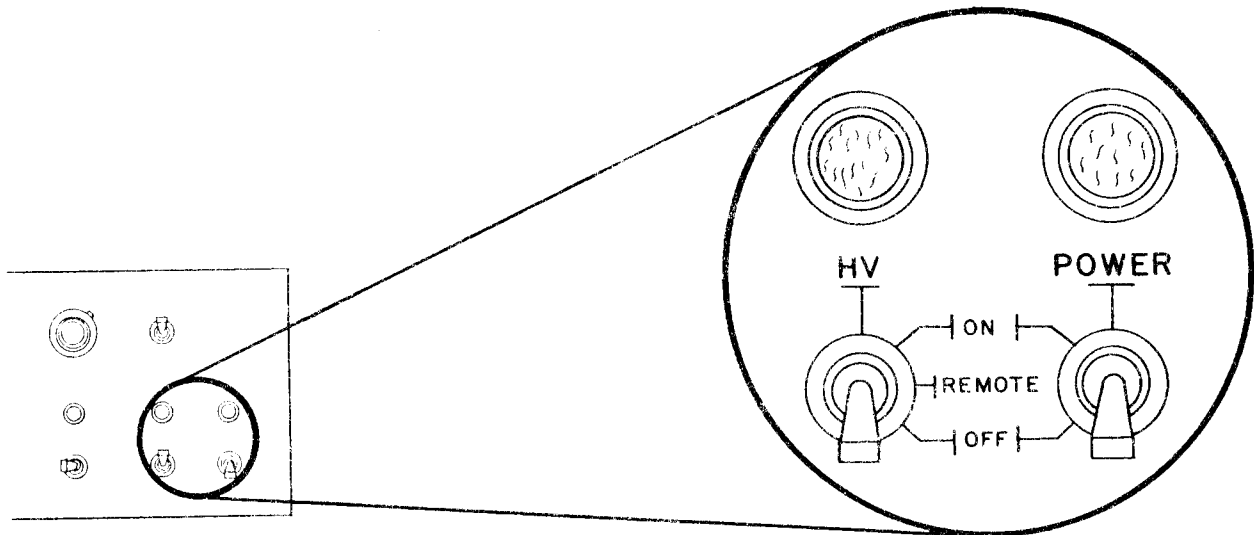

Figure 66. POWER and HV Switches to OFF
- a. Ensure the POWER switch and the HV switch are set to OFF (see Figure 66).